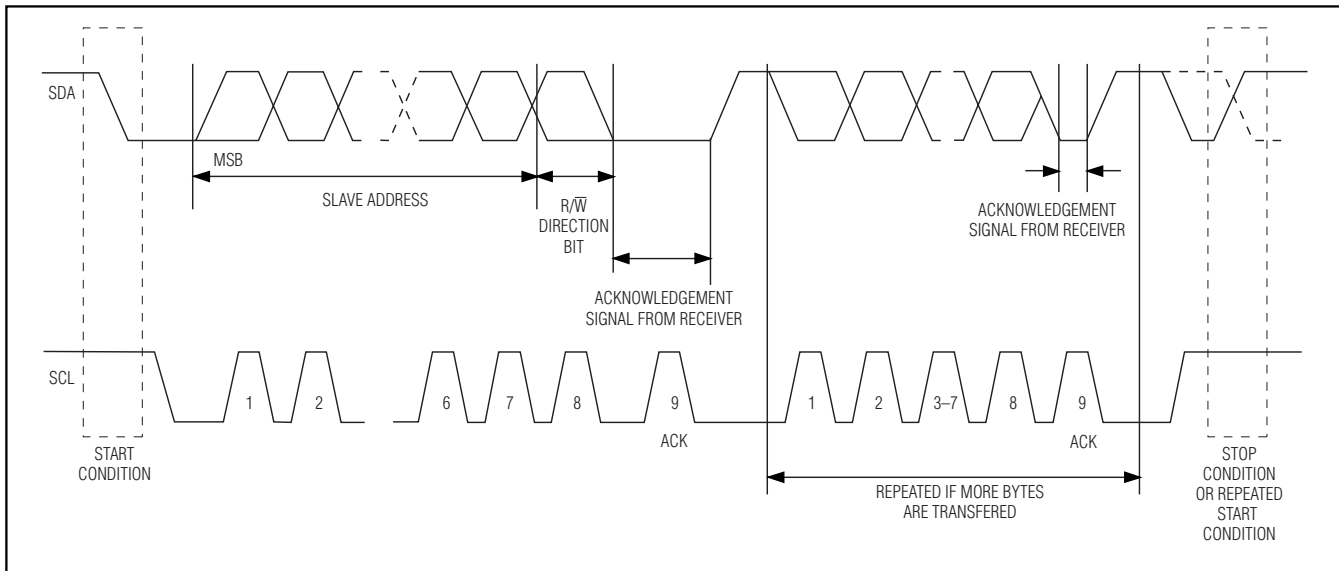

Figure 2. 2-Wire Data Transfer Overview
The following bus protocol has been defined (Figure 2):
**Data valid:** The state of the data line represents valid data when, after a START condition, the data line is stable for the duration of the high period of the clock signal. The data on the line must be changed during the low period of the clock signal. There is one clock pulse per bit of data. Figure 2 details how data transfer is accomplished on the 2-wire bus. Depending upon the state of the  $R/\overline{W}$  bit, two types of data transfer are possible.